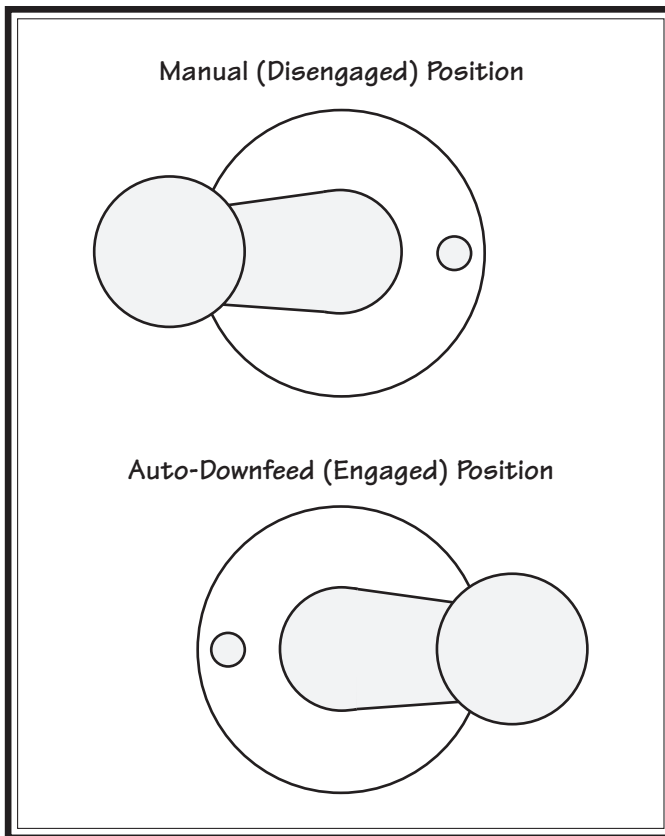

Figure 39. Downfeed selector positions.
2. To set the downfeed for manual control, pull the downfeed selector knob out, then rotate it clockwise until the selector pin under the knob seats in the forward manual (disengaged) position, as shown in **Figure 38** and illustrated in **Figure 39** on the next page.